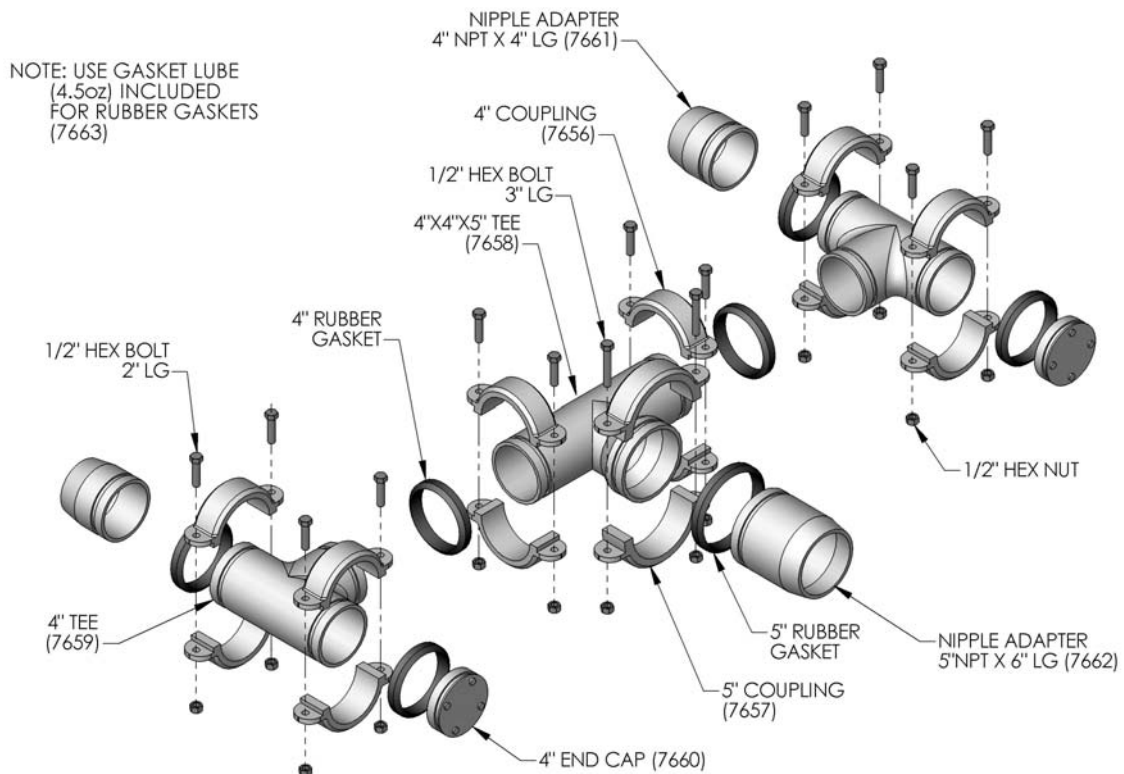

Figure 3.7: Return Yoke
3. A return yoke as shown in Figure 3.7 is provided as standard equipment for each water boiler. Assemble each joint as follows: